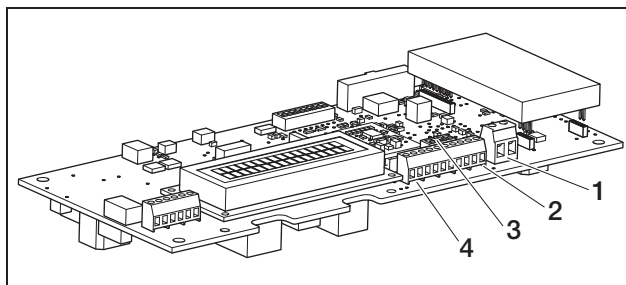

Fig. 54: Communication board I connections
- Connect all wires to the appropriate terminals (fig. 54, position 1).
- Connect the lines to the terminal (4 in figure 54) according to the terminal assignment (table 7).